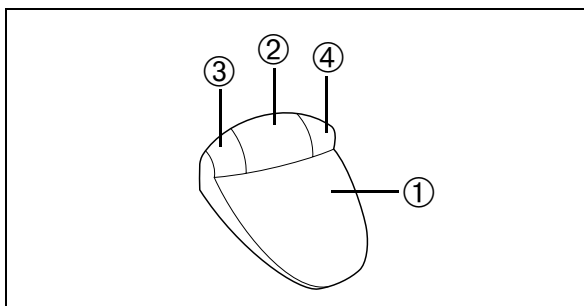

Fig. 30
The chip blower is activated by tapping the middle button ② (Fig. 30) on the foot control.